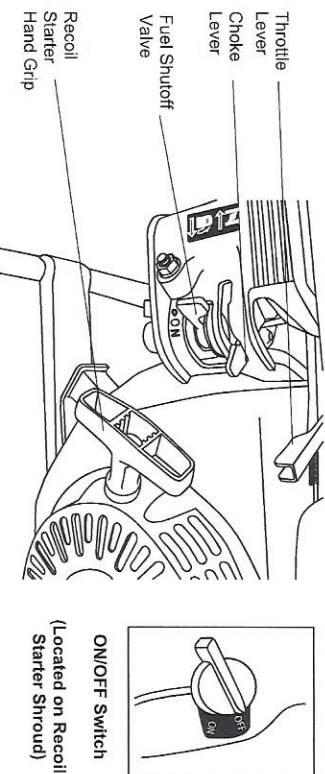

Figure 2-1: Operating Controls
- The controls consist of a throttle lever (for speed control), choke lever (for cold weather starting), fuel shutoff lever (to prevent fuel spills), and a recoil starter (to turnover engine by hand). (Refer to Figure 2-1.)